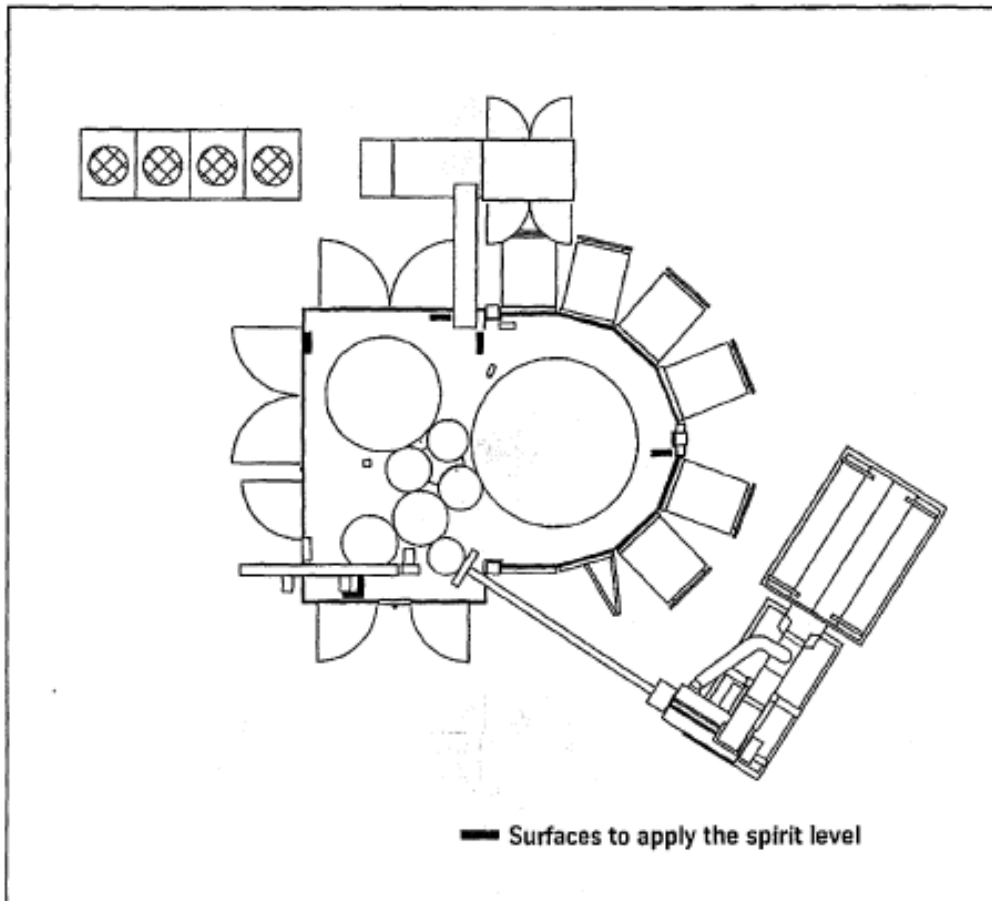

Fig. 1
- The machine must be fastened by means of a sling gear (fig. 1).